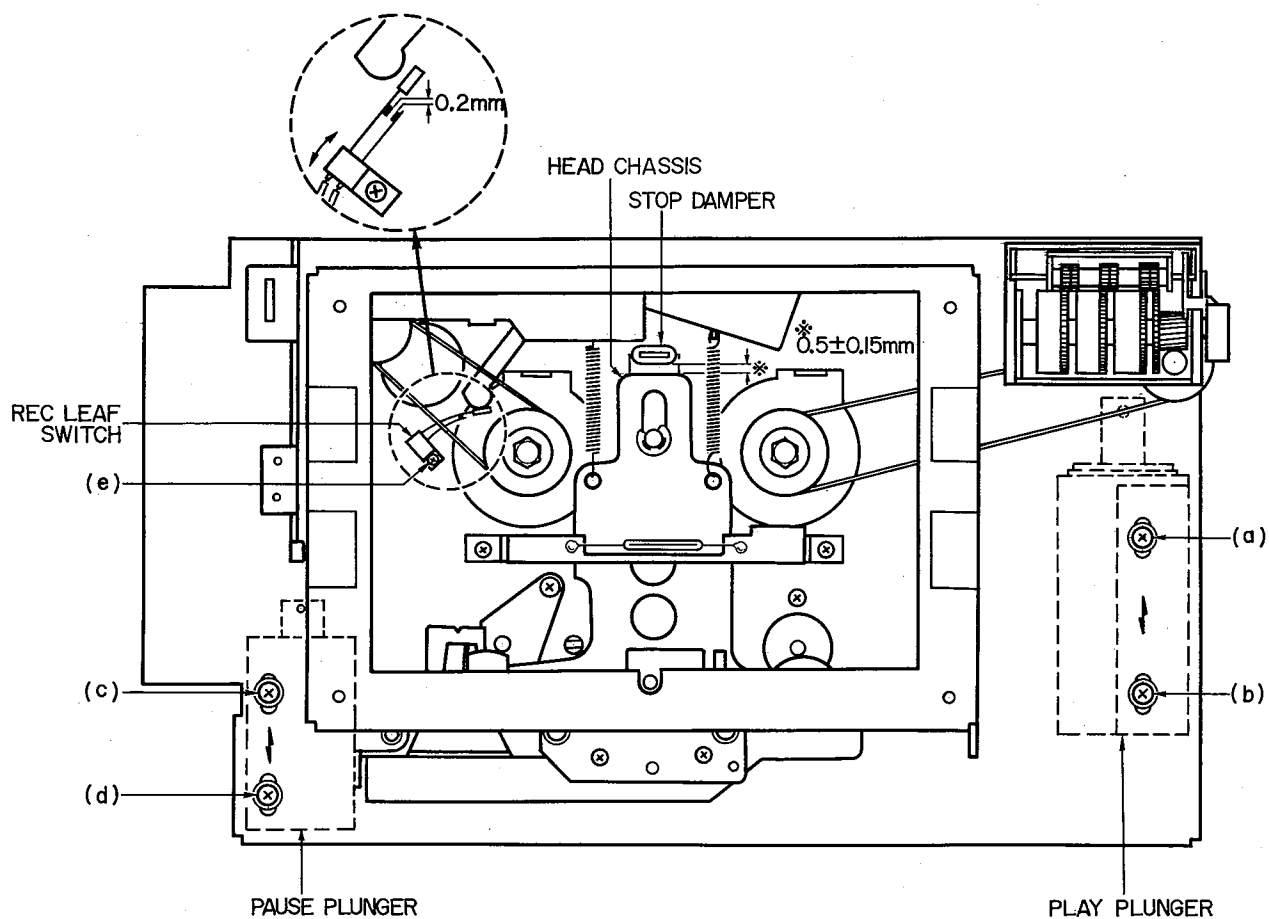

Fig. 17
1. PLAY PLUNGER INSTALLATION POSITION ADJUSTMENT (Refer to Fig. 17)
2. PAUSE PLUNGER INSTALLATION POSITION ADJUSTMENT (Refer to Fig. 17)
3. REC LEAF SWITCH INSTALLATION POSITION ADJUSTMENT (Refer to Fig. 17)